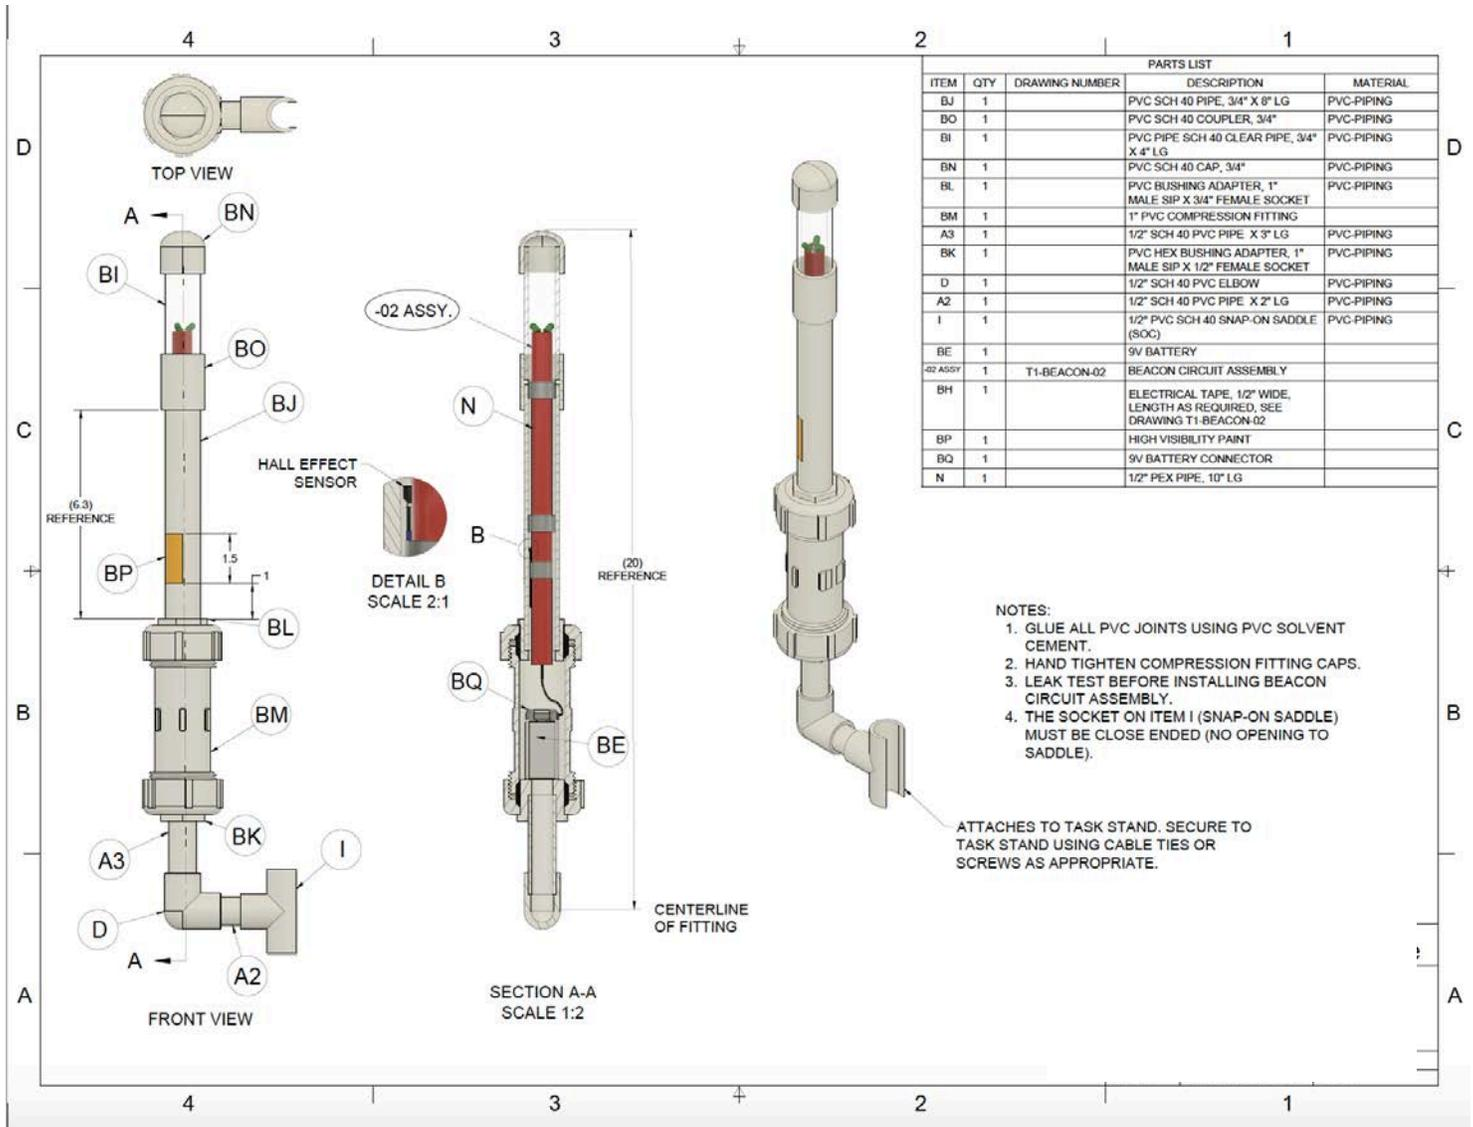

Figure 3.9 Drawing T1-Beacon-01
10. Glue items BN, BI, BO, and BJ with PVC solvent cement. Follow manufacturer’s recommended procedures and safety practices for gluing pipes and fittings. Items BK, A3, D, A2, and I (seen in Figure 3.9 lower section Front View) are also glued but are not part of the Beacon Internal Assembly.